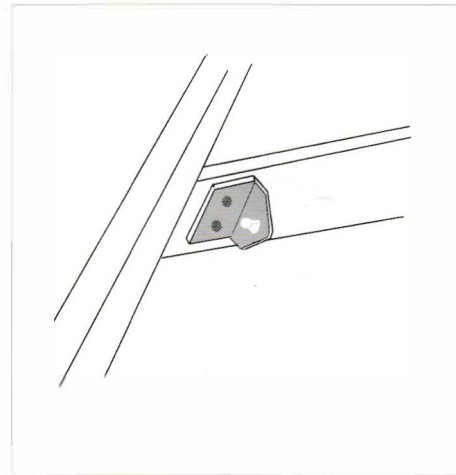
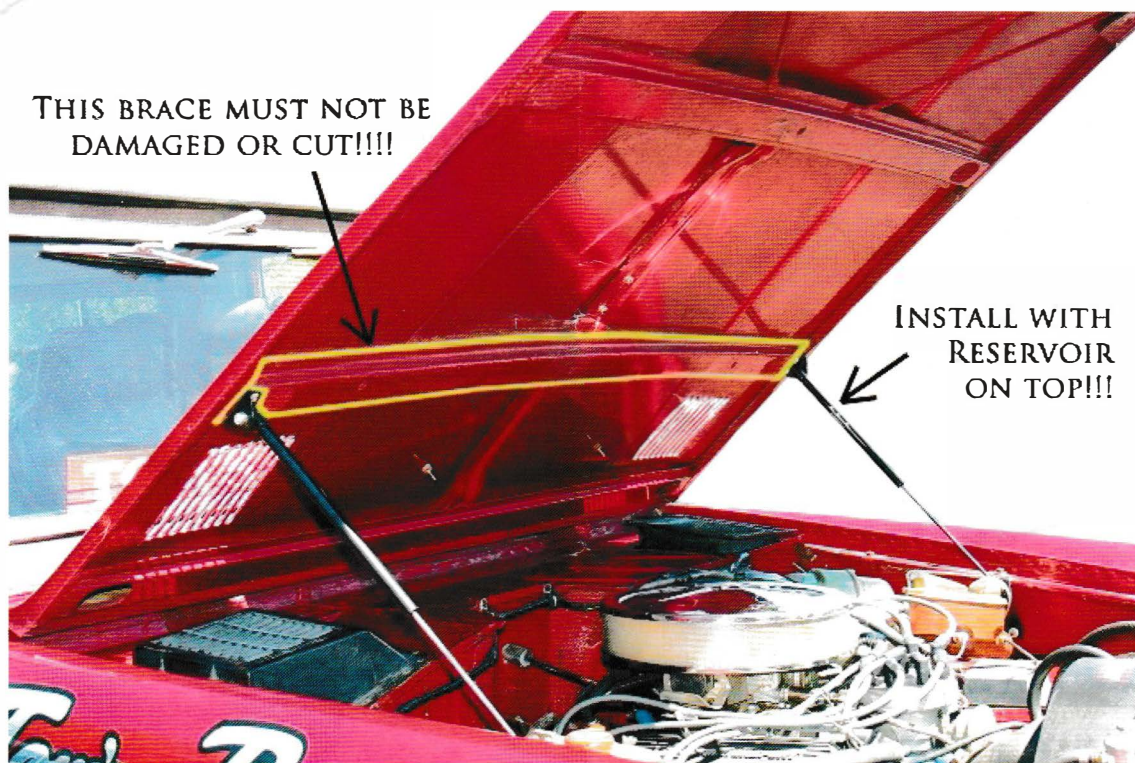

Figure 2
Figure 3
7. In the kit, find the hood brackets (small). Position the hood bracket on the hood brace that is highlighted in Figure 3 on the following page. The bracket should be approx. 1" from the edge of the hood with the ball stud facing out as shown in Figure 2